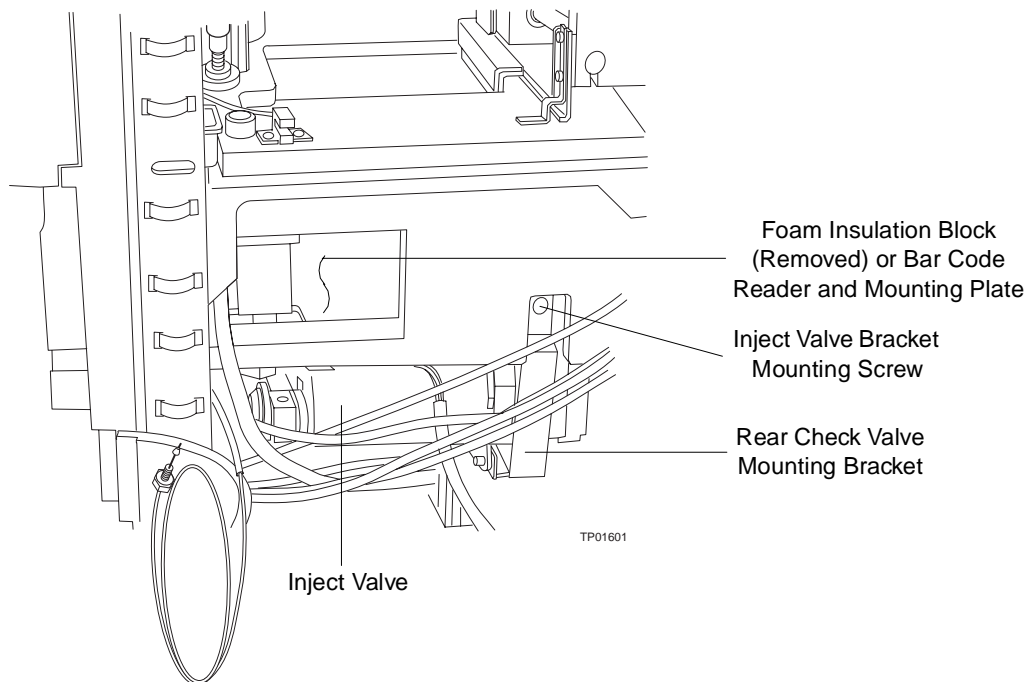

Figure 7-19 Right Side View of Sample Compartment with Foam Insulation Block Removed
2. Remove the foam insulation block (or the optional bar code reader and mounting plate) from the sample compartment (Figure 7-19).
7. While holding the inject valve, use the T-20 Torx wrench to remove the inject valve bracket mounting screw at the rear of the valve (Figure 7-19), then lower the inject valve from the housing.
4. While continuing to hold the inject valve, reinstall the valve bracket mounting screw (Figure 7-19).